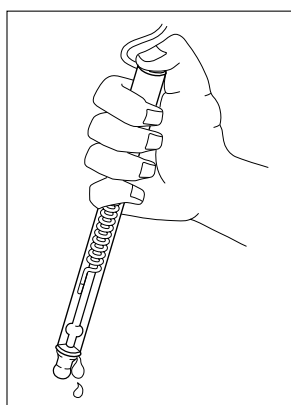

Figure 2:
3. Uncover fill hole by removing plastic sleeve and add ROSS Reference Filling Solution, Orion 810007, to electrode. See **Figure 2**. To maintain an adequate flow rate, the level of filling solution must cover the end of coil and be at least one inch above the sample level when immersed. The fill hole should be open whenever the electrode is in use.